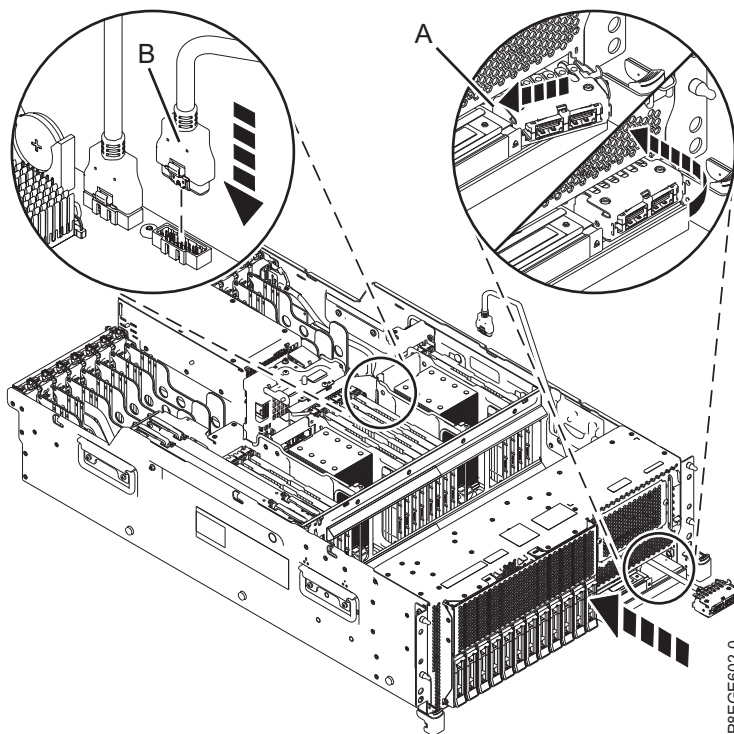

Figure 3. Installing the front USB cable
2. Insert the plug end of the USB cable into the opening on the front of the system, as shown in Figure 3. Route the cable along the right side of the system chassis.
3. Plug the USB cable (B) into the connector on the system backplane, as shown in Figure 3.
4. Latch the USB cable housing (A) into the opening on the front of the system by inserting the tab on the left side of the housing into the slot. Pivot the housing into the opening until the housing latches into position on the right side. See Figure 3.